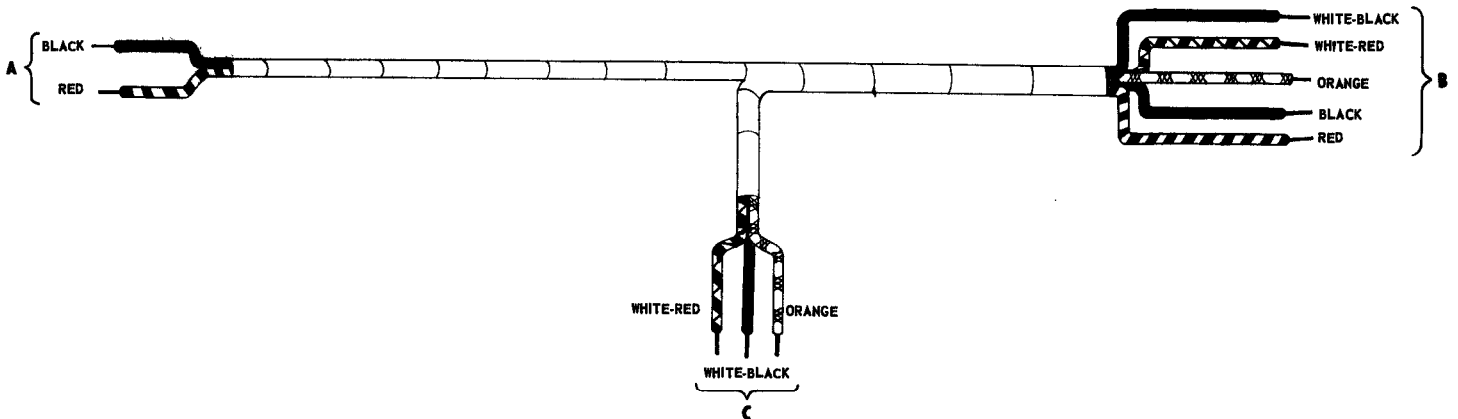

Figure 20. Small Wiring Harness.
- 50. Lay out the small harness so it appears as in Fig. 20. Identify the various branches and wire colors.
- 54. Route the white lead with red tracer of branch C to lug 2 of tie strip TS-2. Trim to length and remove $\frac{1}{4}$ " insulation from the end. Connect to lug 2 of TS-2. (NS).